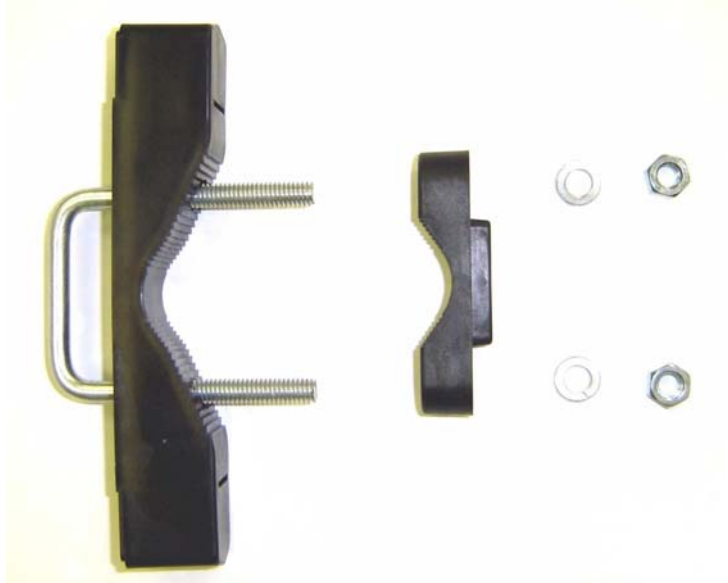

Figure 3: Pole Mount Assembly
4. Assemble the two Pole Mounting Brackets with the included U-bolts, hardware and Pole Mount Clamps. Reference Figure 3.